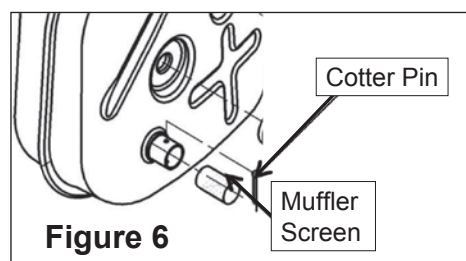

Figure 6
3. Remove the cotter pin. (Figure 6)